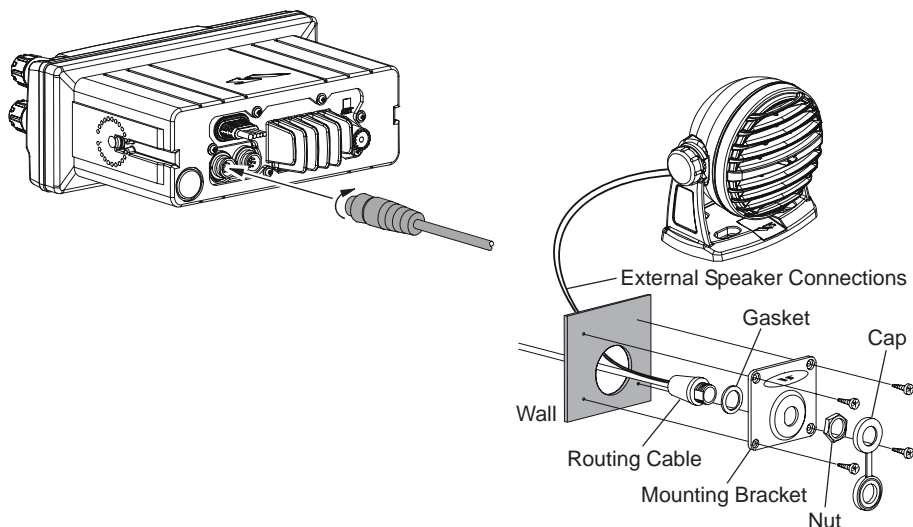

Figure 3. Enhanced RAM+ MIC Installation
1. Connect the Extension Cable to the Remote Mic eight pin connector on the rear panel, then tighten the Cable Nut (See Figure 3).
2. Referring to Figure 3, make a 1.2" (30 mm) hole in the wall, then insert the Extension Cable into this hole. Connect the Gasket and Mount Base to the Extension Cable Connector using the Nut.